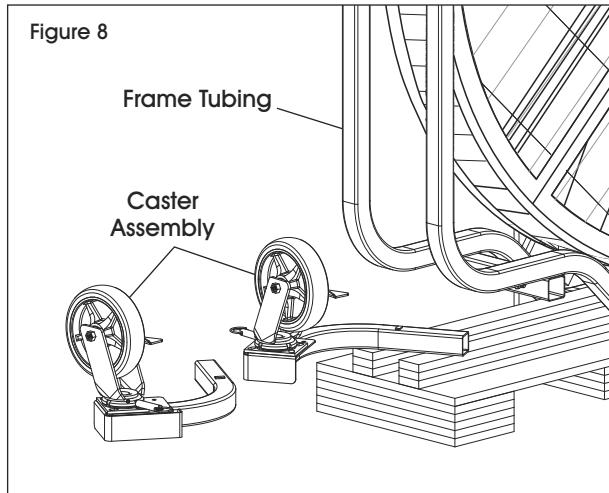

Figure 8
6. Take out the caster assembly from the frame tubing of the fan. (See Figure 8)